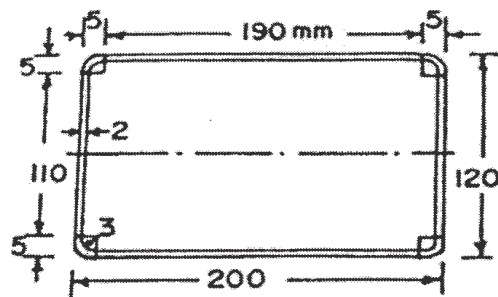

Figure 1
- b)** Find the column section properties and allowable load for the column section shown in Figure 1. The effective length of column is 3.0m. Take  $f_y=235$  MPa. [7]